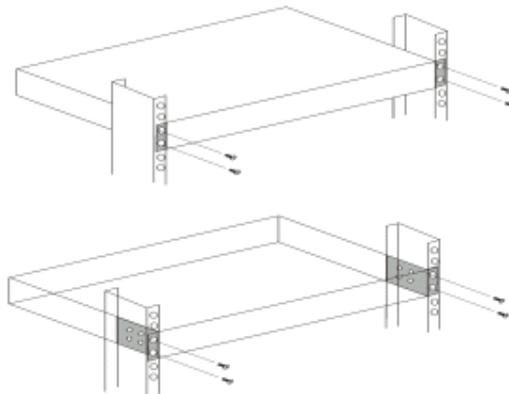

Figure 2-1. EPS-3128 Switch Rack-mounting
Step 2. Align the mounting holes in the brackets with the desired holes in the rack, and insert screws through each bracket and into the rack. (See Figure 2-1)